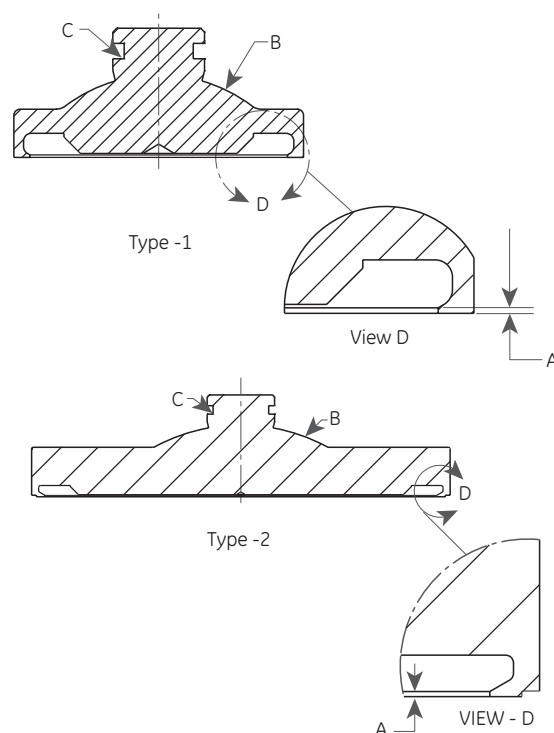

Figure 19: Thermodisc® Design
8. **Thermodisc® Metal Seated Disc:** This disc (Figure 19) cannot be machined. It can be lapped as long
- a. Seat defects and damage cannot be lapped out without reducing the "A" dimension in Figure 19 and listed in Table 6. If the dimension cannot be measured, replace the Thermodisc®.